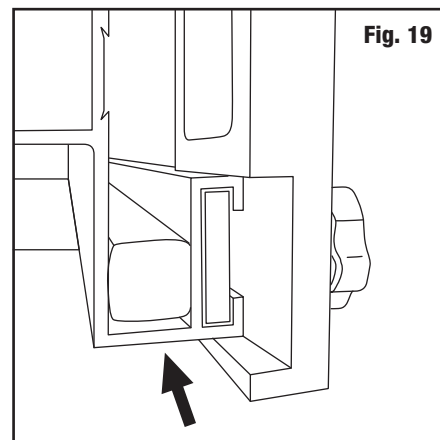

Fig. 19
1. Holding clamp vertically, slide Material Clamp bracket lock nut into Left Cutting Bed (Fig. 19).